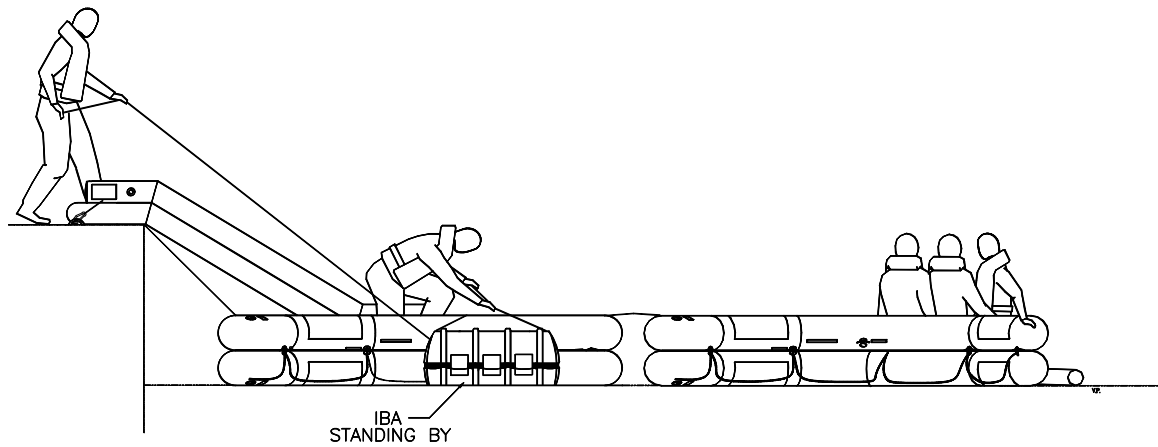

Figure 3.11E - Getting ready an additional IBA - (for vessels that carry more than one IBA per side).
In the case of multiple IBA's, the system will have no more than two (2) IBA's fully inflated at any time. Additional IBA's can be deployed and tethered standing by the two inflated IBA's in order to speed up the evacuation (Figure 3.11E).